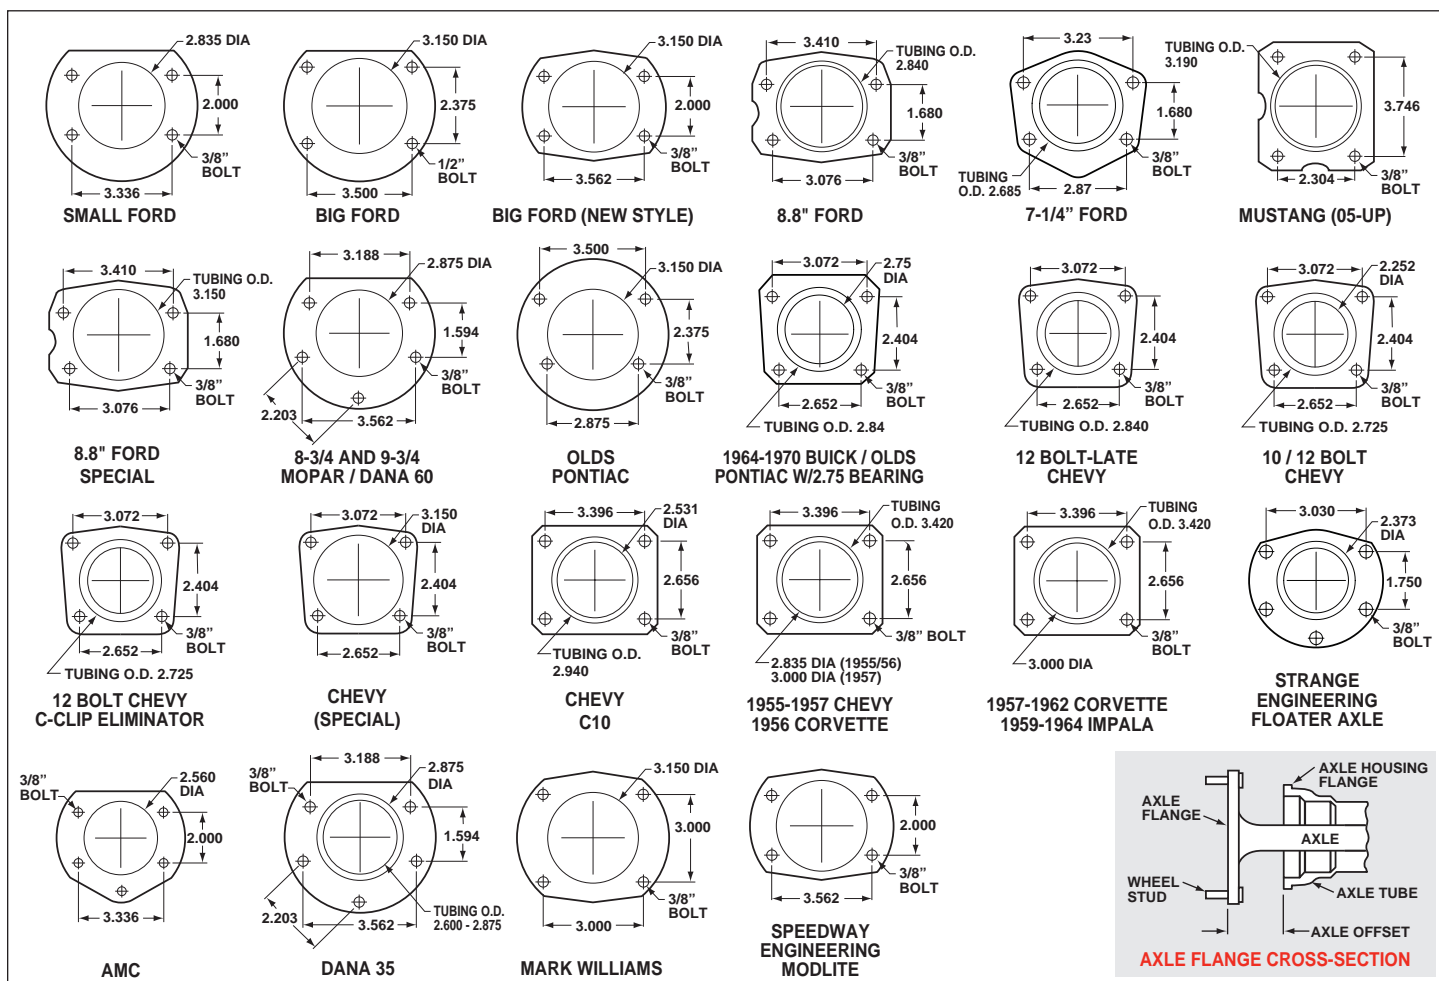

Figure 8. Rear Housing Flange Chart and Axle Flange / Offset Cross-Section
- Make sure this is the correct kit to fit the axle housing flange, not necessarily the rear end make. Many times after market manufacturers put a different make of axle housing flange on the stock rear end housing (see Figure 8). Example; Big Ford rear ends with Olds-Pontiac flanges, therefore, an Olds-Pontiac rear disc brake kit would be the correct kit to order. Also, shock clearance may be a problem. They may have to be modified and/or relocated to clear the Wilwood kit after final assembly.
- Dimension from wheel side of axle flange to wheel side of axle housing flange (see Figure 8, lower right hand corner). This dimension is critical to ensure proper alignment of the rotor to the caliper, and should match offset given in the kit description.